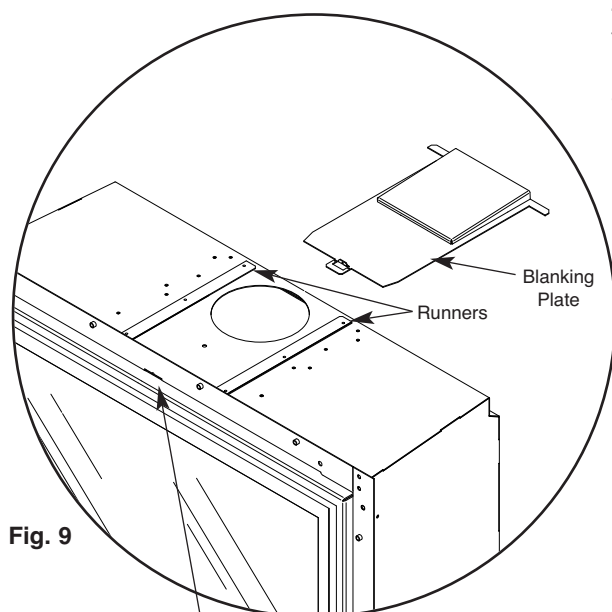

Fig. 9
1. Remove the 5" flue spigot adaptor and cap off the outlet hole with the slide-in blanking plate provided (Fig. 9).